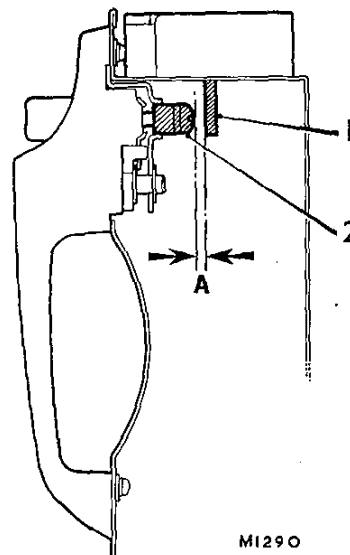

Fig. Rb.3
This is preset during manufacture to provide free button movement before the latch contactor (1) begins to operate and release from the striker before full depression (see Fig. Rb.3). However, if further adjustment of the plunger screw is required proceed as detailed below:
- (5) Remove the exterior door handle (see Section Rb.6).
(6) Adjust the plunger screw and ensure that when the handle is refitted there is a clearance of approximately $\frac{1}{16}$ to $\frac{1}{8}$ in. (1 to 1.5 mm.) between the head of the screw and the contactor mechanism.